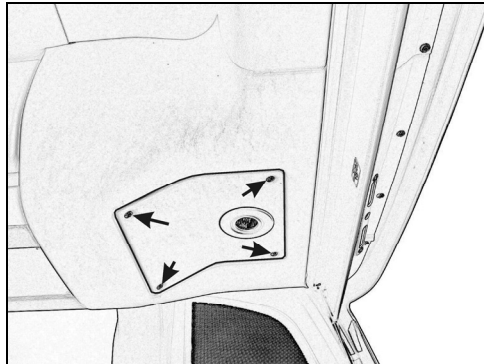

FIGURE 5
3. Remove 4 screws fixing access panel located above driver (Figure 5).